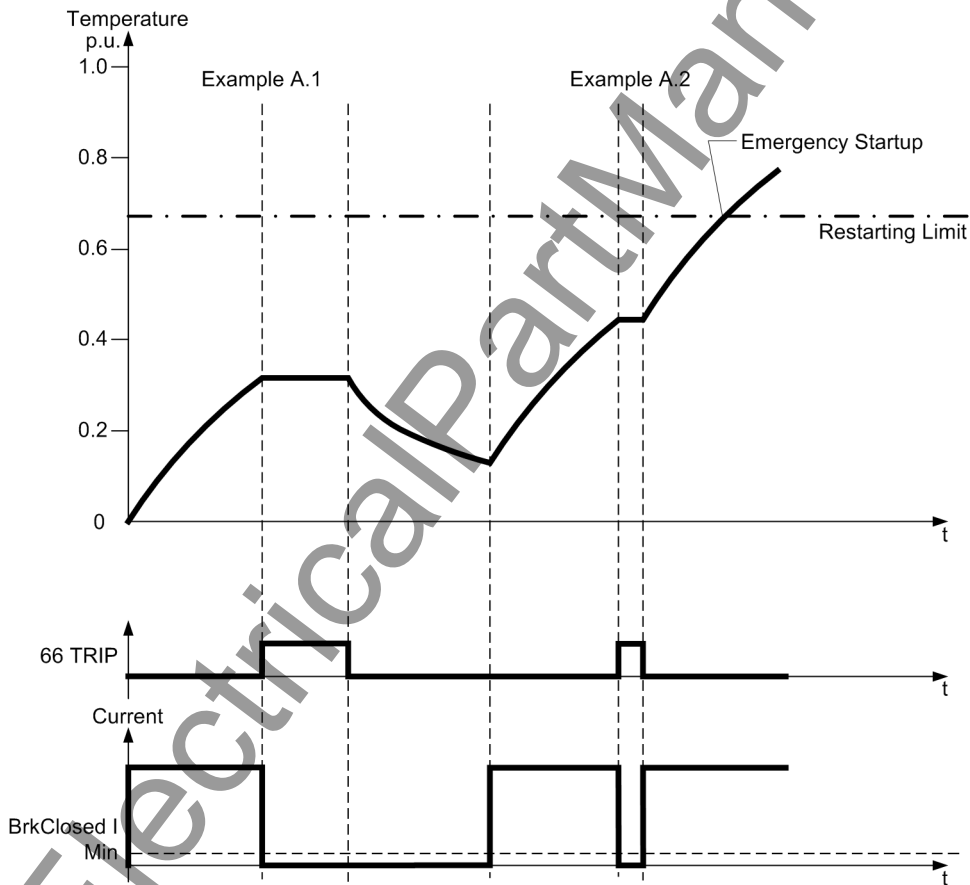

Figure 2-34 Startups according to examples A.1 and A.2
1. A normal startup brings the machine into a temperature range below the thermal restarting limit and the machine is stopped. The stop launches the equilibrium time $4304 T_{Equal}$ and generates the message „66 TRIP“. The equilibrium time expires and the message „66 TRIP“ is cleared. During the time T_{Equal} the thermal replica remains "frozen" (see Figure 2-34, on the left).
2. A normal startup brings the machine into a temperature range below the thermal restarting limit, the machine is stopped and is started by an emergency startup without waiting for the equilibrium time to expire. The equilibrium time is reset, the thermal replica is released and „66 TRIP“ is reported as going (see Figure 2-34, to the right).